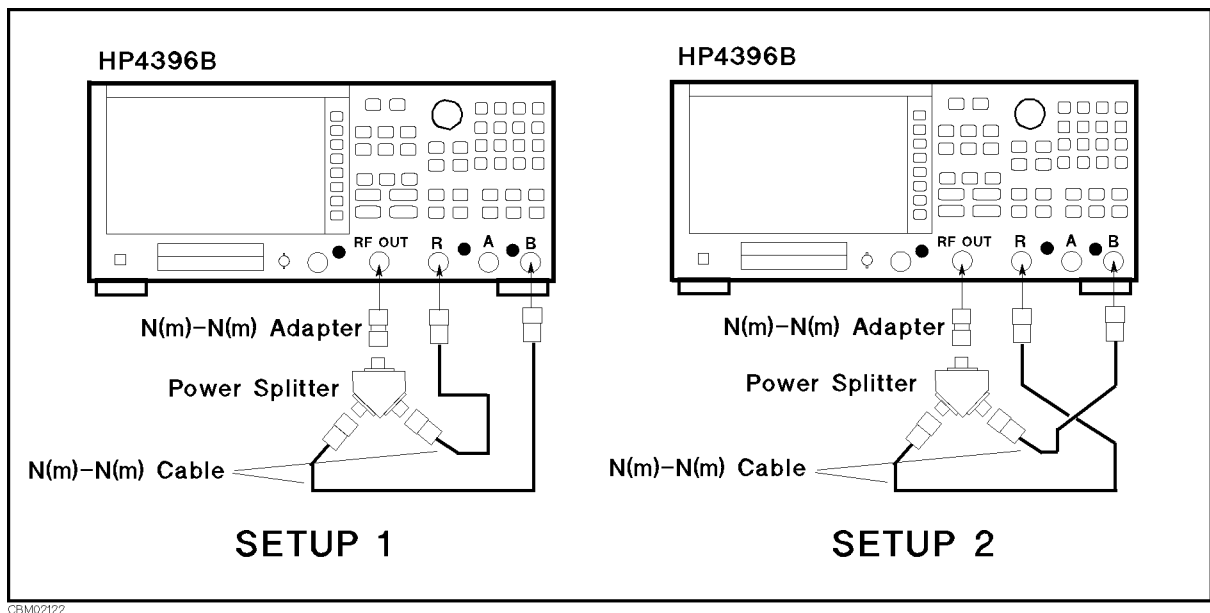

Figure 2-17. B/R Magnitude Ratio/Phase Frequency Response Test Setup
- a. Connect the test equipment as shown in setup 1 of Figure 2-17.
- e. Reverse the cable connections of the 4396B B and R inputs as shown in setup 2 of Figure 2-17.
- o. Connect the test equipment as shown in setup 1 of Figure 2-17.